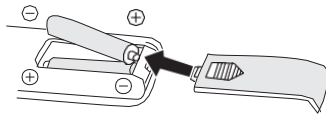

Fig.2
2. Insert the batteries, and make sure that the batteries are placed as shown in the Fig 2.